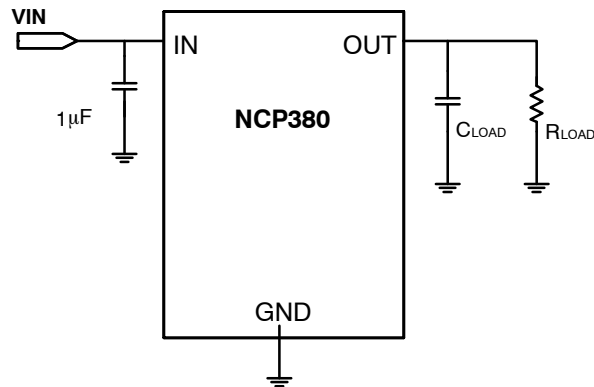

Figure 3. Test Configuration
10. Parameters are guaranteed for  $C_{LOAD}$  and  $R_{LOAD}$  connected to the OUT pin with respect to the ground, See Figure 3.